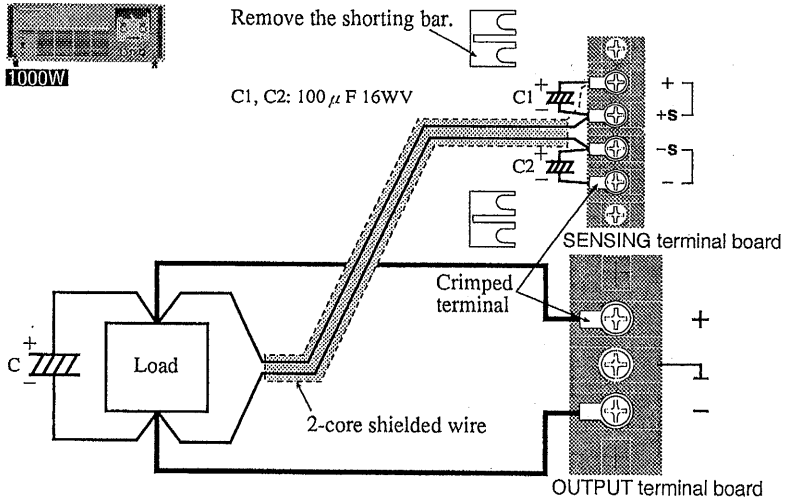

Fig. 3-1B Remote sensing connection (model 1000W)
• For the model 1000W user, see Fig. 3-1B.
- ④ Connect the +S terminal and the + (pos.) terminal of the load, and connect the -S terminal and the - (neg.) terminal of the load.
- ⑤ Connect electrolytic capacitors (C1, C2) across the +S terminal and the + (pos.) terminal, and across the -S terminal and the - (neg.) terminal.
- ⑥ Connect an electrolytic capacitor (C) with a capacity of approx. 1,000 to 100,000  $\mu$  F across the load terminals.